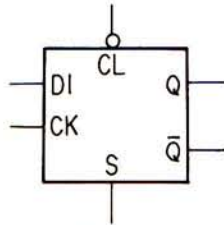
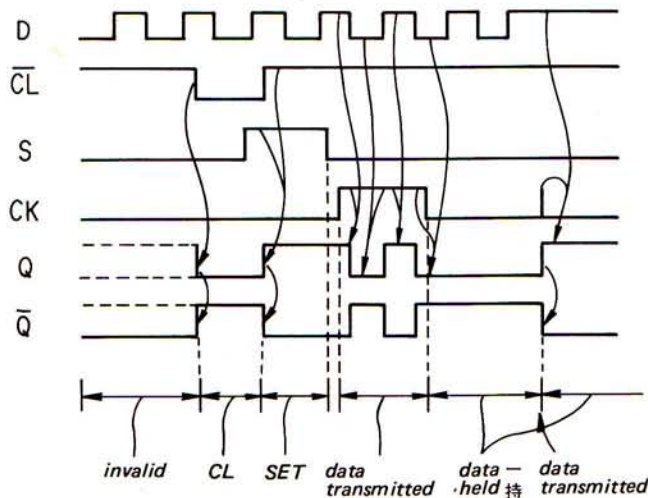

Fig. 1-5
Fig. 1-6
- The CL(R) (clear or reset) and the S (set) input in a D type FF get the priority over the D (data) and the CK (clock) inputs. That is, the D and CK inputs will be ignored if the CL(R) or the S input is present.
- The input symbol represents that the input is active HIGH if there is no circle at the input at the gate and if a circle is present, then that input will be active LOW. For example, the FF in Fig. 1-5 is cleared when the CL (clear) input drops LOW.
- Fig. 1-6 shows the timing chart of the operations of a D type FF shown in Fig. 1-5.